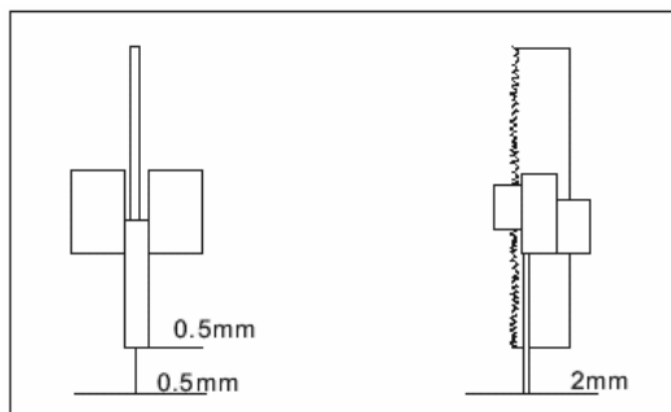

Fig.21
4. Remove the blades as shown in (Fig. 21)